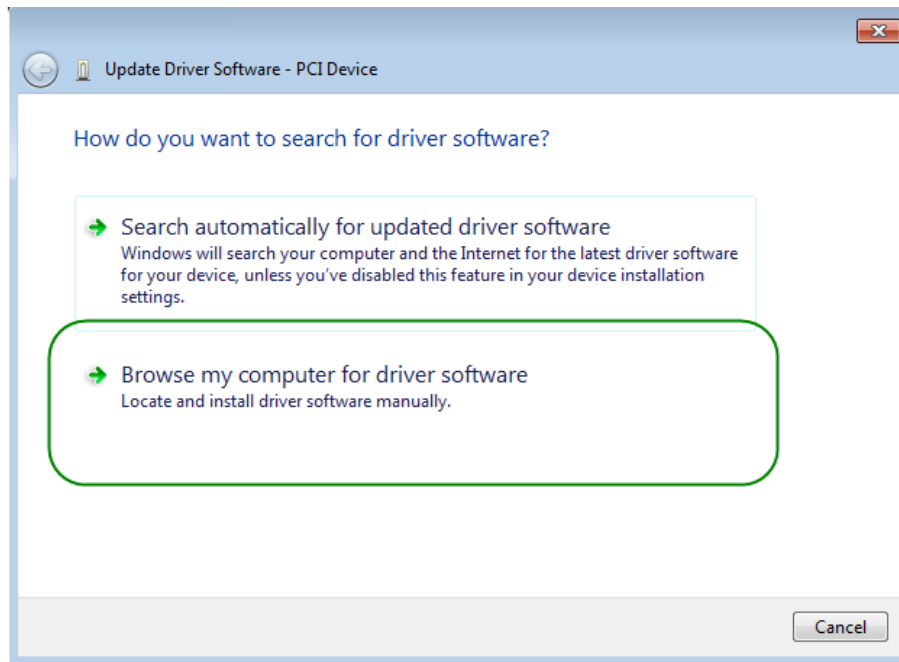

Figure 6-4 Dialog of Browse my computer for driver software
6. In the **How do you want to search for driver software** dialog, click **Browse my computer for driver software** item, as shown in **Figure 6-4**.